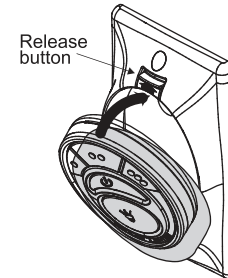

Fig. 21
1. Insert the transmitter into the wall plate by inserting the bottom of the transmitter first and then press the top of the transmitter into the pocket. The transmitter will fully function from this location or you can remove the transmitter and use as a "Hand Held" device. (Fig. 21)